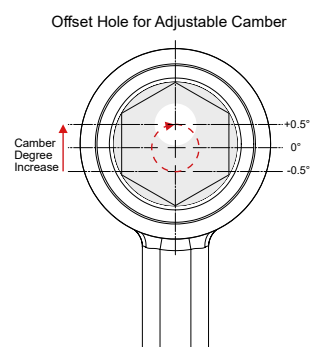

Figure 2
7. For maximum camber the spanner to rotate the sleeve so that the bore is positioned as shown in figure 2.